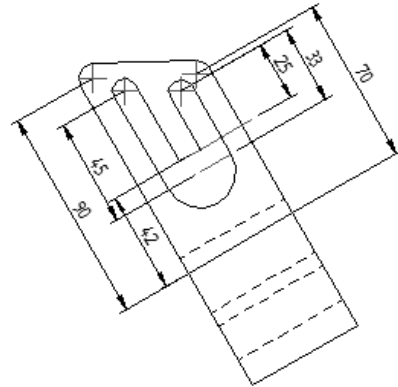

Figure 12-44 Auxiliary view after dimensioning
9. Select the center of the arc and then the axis, and place 33 as the dimension, see Figure 12-44.